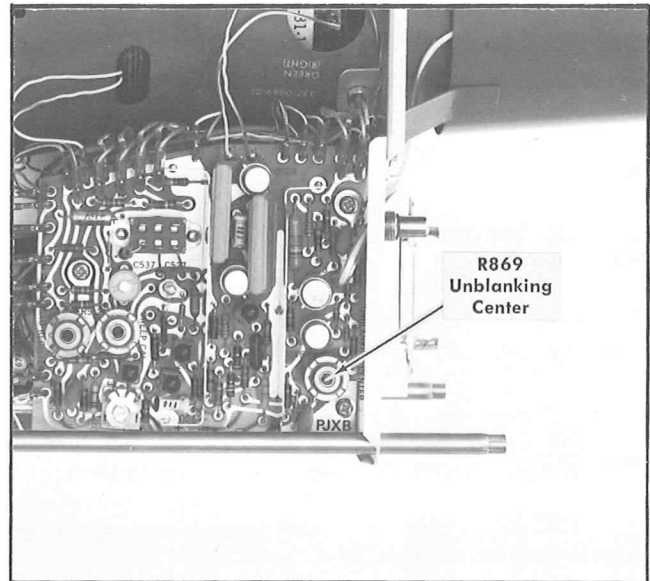

Fig. 5-8. Location of Unblanking Center adjustment (Horizontal Amplifier board).
b. ADJUST—Unblinking Center adjustment R869 (see Fig. 5-8) for maximum trace intensity. This should occur near the center of adjustment range.